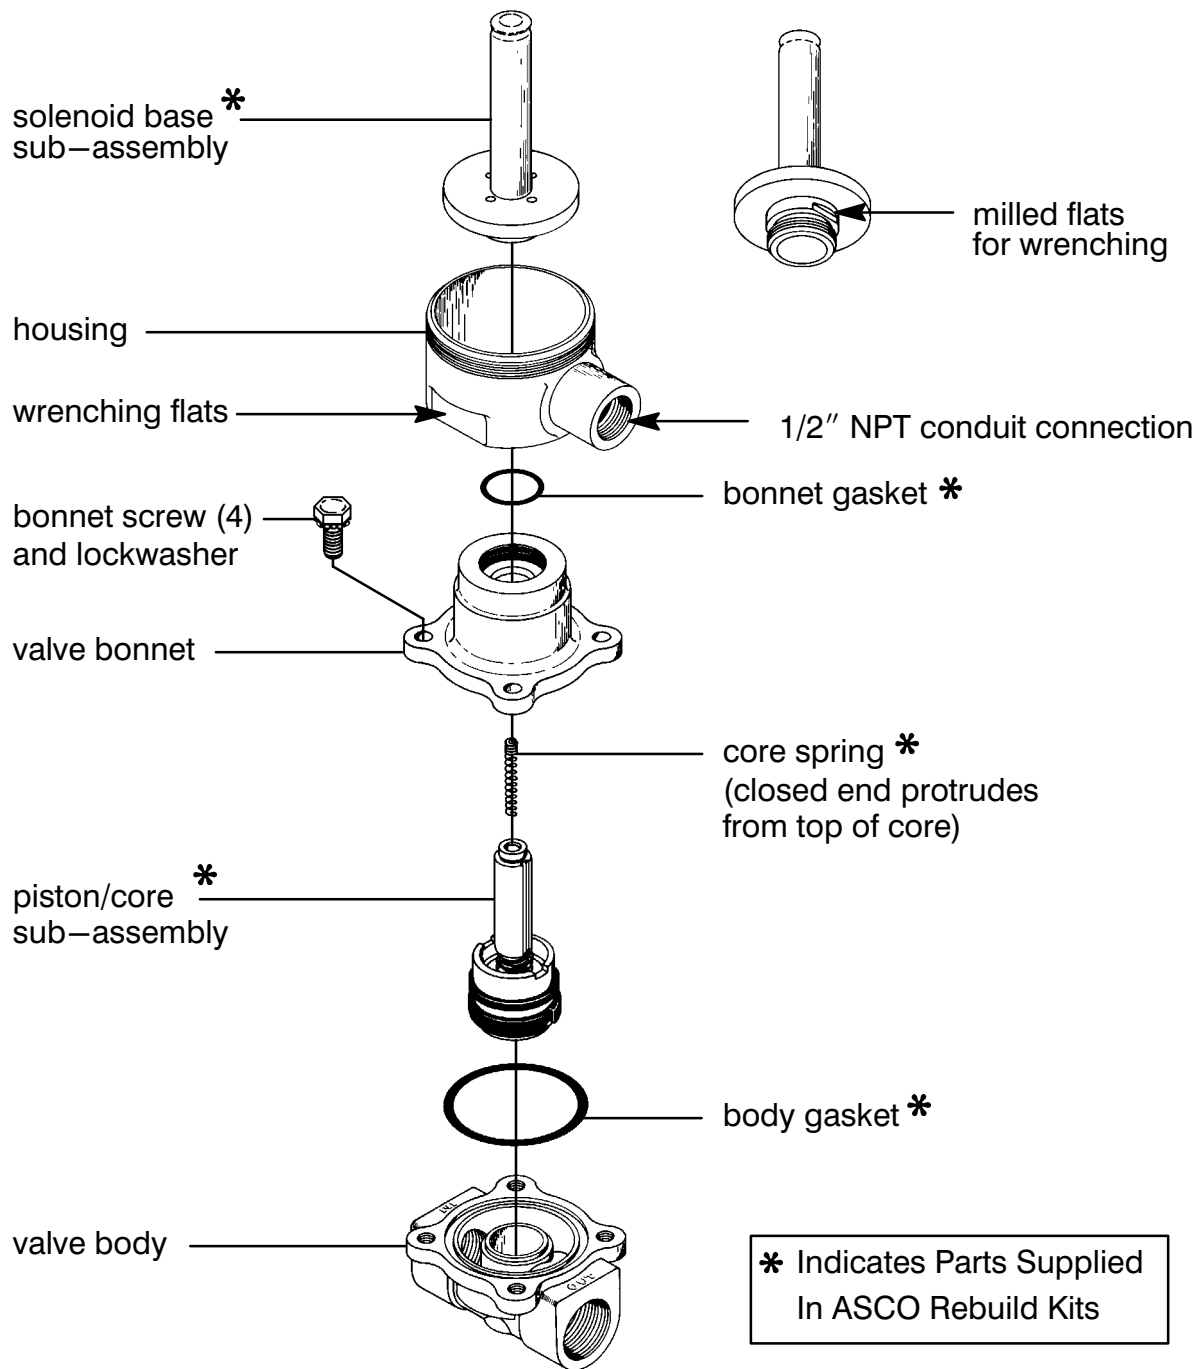

Figure 3. Series 8211/EF8210 valve without solenoid – 3/4" NPT – DC construction.
1. Disassemble valve in an orderly fashion using exploded views for identification and placement of parts. Refer to Figure 1 & 2 for AC construction; Figure 3 for DC construction.